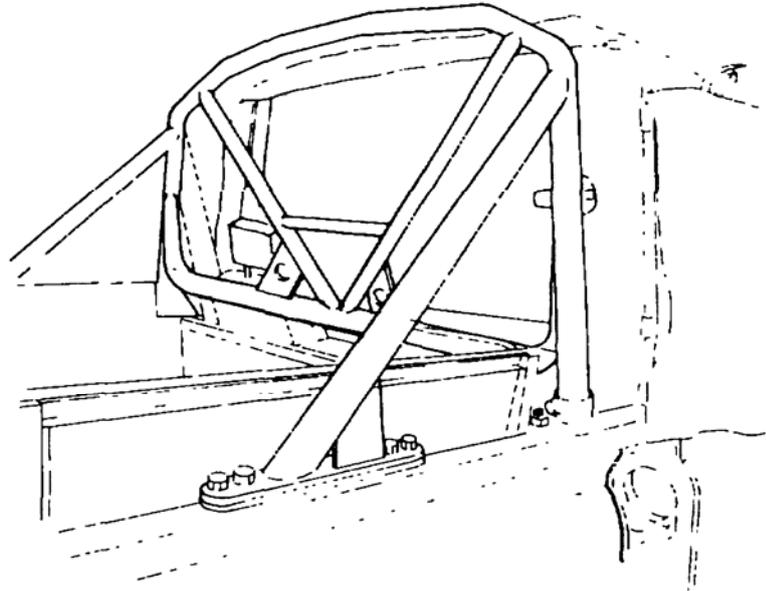

Figure 11 Front Roll Bar Removal
- d. Remove the two horizontal canopy rails connecting the front roll tube to the front and intermediate canopy bows (refer Figure 11).